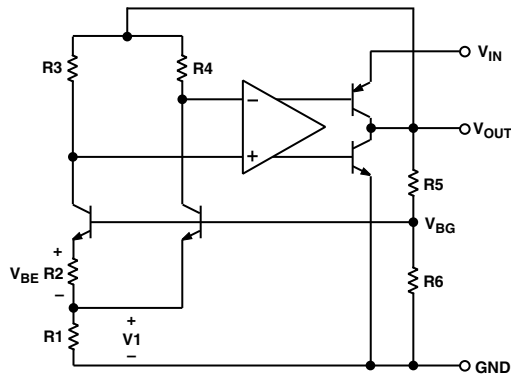

Figure 2. Simplified Schematic
The AD1582/AD1583/AD1584/AD1585 family uses the band gap concept to produce stable, low temperature coefficient voltage references suitable for high accuracy data acquisition components and systems. This family of precision references uses the underlying temperature characteristics of a silicon transistor's base emitter voltage in the forward-biased operating region. Under this condition, all such transistors have a $-2 \text{ mV}/^\circ\text{C}$ temperature coefficient (TC) and a V_{BE} that, when extrapolated to absolute zero, 0°K (with collector current proportional to absolute temperature), approximates the silicon band gap voltage. By summing a voltage that has an equal and opposite temperature coefficient of $2 \text{ mV}/^\circ\text{C}$ with the V_{BE} of a forward-biased transistor, an almost zero TC reference can be developed. In the AD1582/AD1583/AD1584/AD1585 simplified circuit diagram shown in Figure 2, such a compensating voltage, V_1 , is derived by driving two transistors at different current densities and amplifying the resultant V_{BE} difference (ΔV_{BE} , which has a positive TC). The sum of V_{BE} and V_1 (V_{BG}) is then buffered and amplified to produce stable reference voltage outputs of 2.5 V, 3 V, 4.096 V, and 5 V.